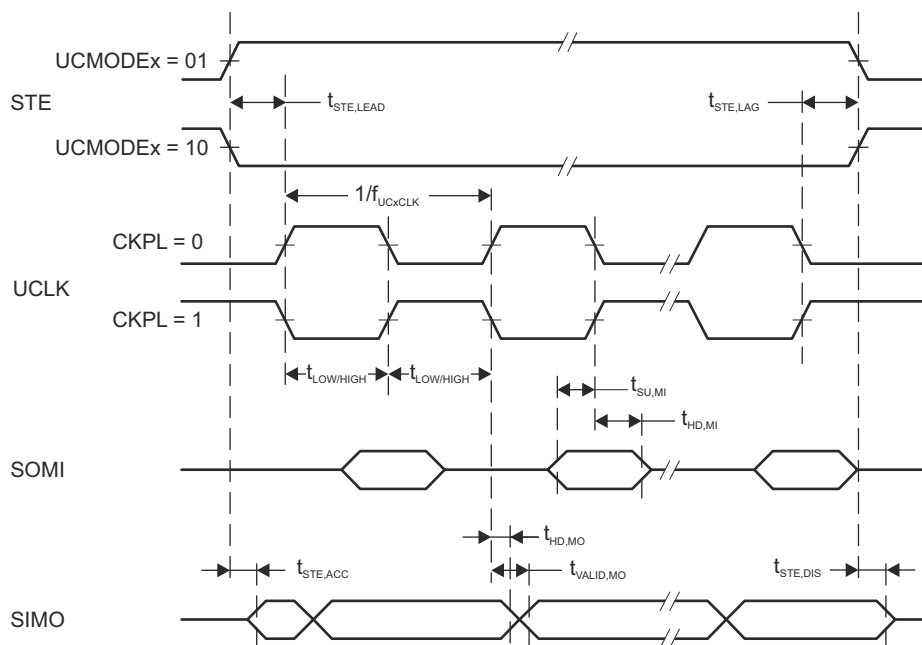
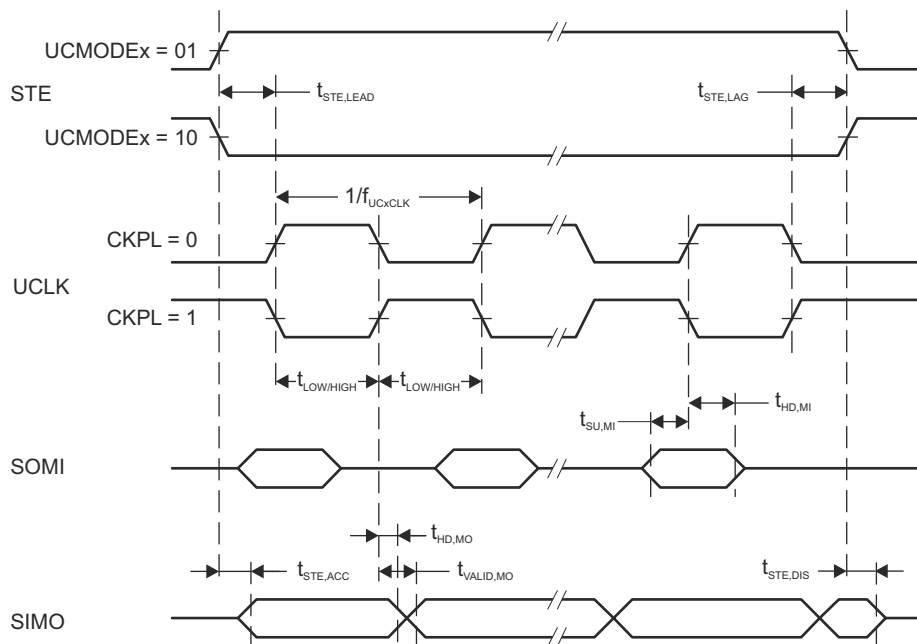

图 8-10. SPI Master Mode, CKPH = 0
图 8-11. SPI Master Mode, CKPH = 1
- (2) Specifies the time to drive the next valid data to the SIMO output after the output changing UCLK clock edge. Refer to the timing diagrams in 图 8-10 and 图 8-11.
- (3) Specifies how long data on the SIMO output is valid after the output changing UCLK clock edge. Negative values indicate that the data on the SIMO output can become invalid before the output changing clock edge observed on UCLK. Refer to the timing diagrams in 图 8-10 and 图 8-11.